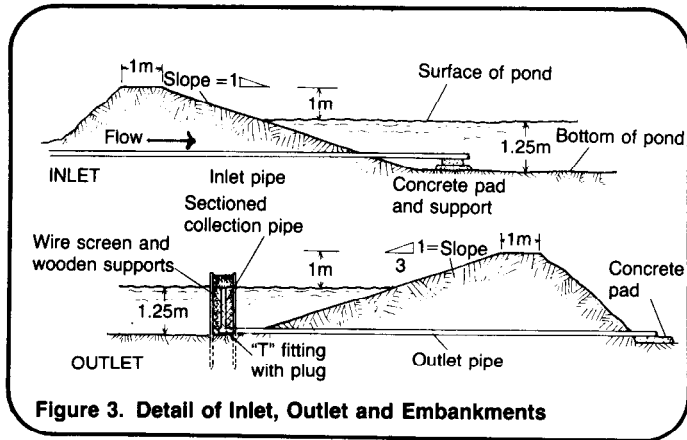

Figure 3. Detail of Inlet, Outlet and Embankments
3. Design drawing of the inlet, outlet, and embankment, similar to Figure 3;
2. Build bases about 0.5m high for the inlet pipes from concrete or stone. The purpose of the bases is to raise the inlet pipe above the bottom of the pond. See Figure 3.
5. Build the vertical outlet from sleeved sections of pipe. The height of the vertical outlet determines the depth of the pond. It must be equal to the design depth calculated by the project designer. The sleeved sections will allow the pond to be drained when necessary. See Figure 3.